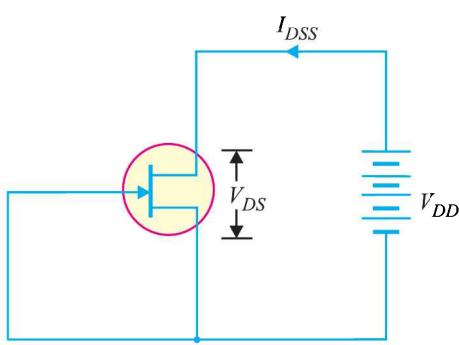
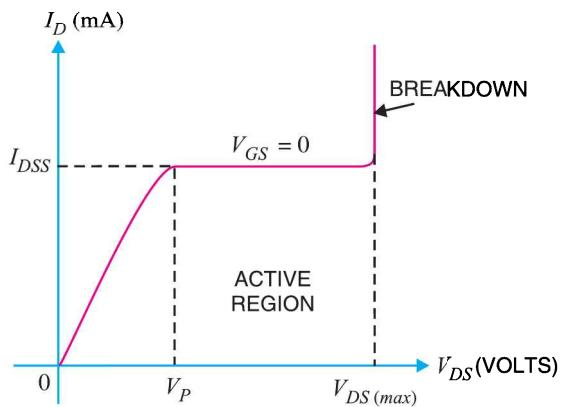

Fig. 19.9
Fig. 19.10
Fig 19.9 shows the *JFET* circuit with  $V_{GS} = 0$  *i.e.*, source shorted-circuited to gate. This is normally called shorted-gate condition. Fig. 19.10 shows the graph between  $I_D$  and  $V_{DS}$  for the shorted gate condition. The drain current rises rapidly at first and then levels off at pinch off voltage  $V_p$ . The drain current has now reached the maximum value  $I_{DSS}$ . When  $V_{DS}$  is increased beyond  $V_p$ , the depletion layers expand at the top of the channel. The channel now acts as a current limiter and \*\*holds drain current constant at  $I_{DSS}$ .
- (ii) There is a maximum drain voltage [ $V_{DS(max)}$ ] that can be applied to a *JFET*. If the drain voltage exceeds  $V_{DS(max)}$ , *JFET* would breakdown as shown in Fig. 19.10.